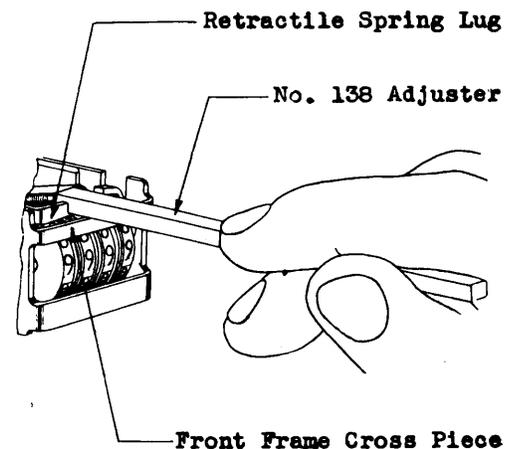

Fig. 19 – Method of Adjusting Retractable Spring Tension
tractile spring lug away from the cyclometer frame cross piece with the No. 138 adjuster, applying it approximately in the middle of the lug as shown in Fig. 19. If the tension of the spring cannot be reduced sufficiently within the limits of the adjusting of the lug, replace the spring with a new one.
- (4) If the register fails to meet the nonoperate or release requirements increase the tension of the retractile spring by adjusting the lug towards the cyclometer frame cross piece with the No. 138 adjuster applying it approximately in the middle of the lug as shown in Fig. 19. If the tension of the spring cannot be increased sufficiently within the limits of the adjusting of the lug, replace the spring with a new one.